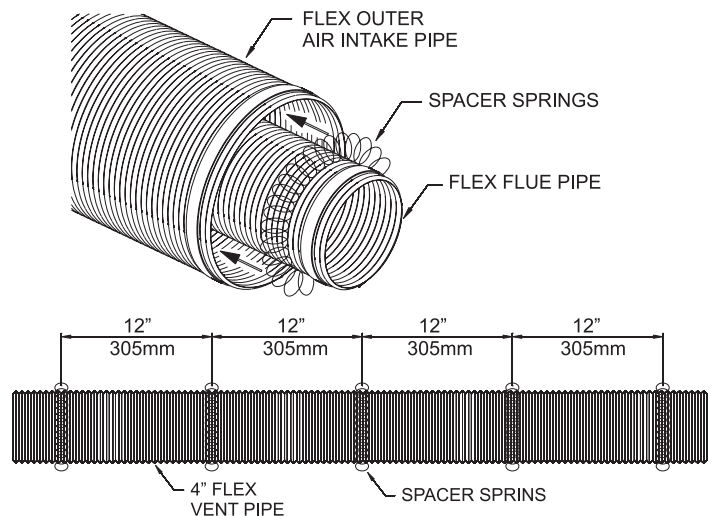

Figure 58
9. Install the spring spacers provided around the 4 inch diameter flex flue at 1 foot intervals, then slide the flue pipe with spacers into the 7 inch diameter outer flex vent pipe. Make sure the springs are spaced evenly starting at 12 inches from the fireplace collar. **See Figure 58.**